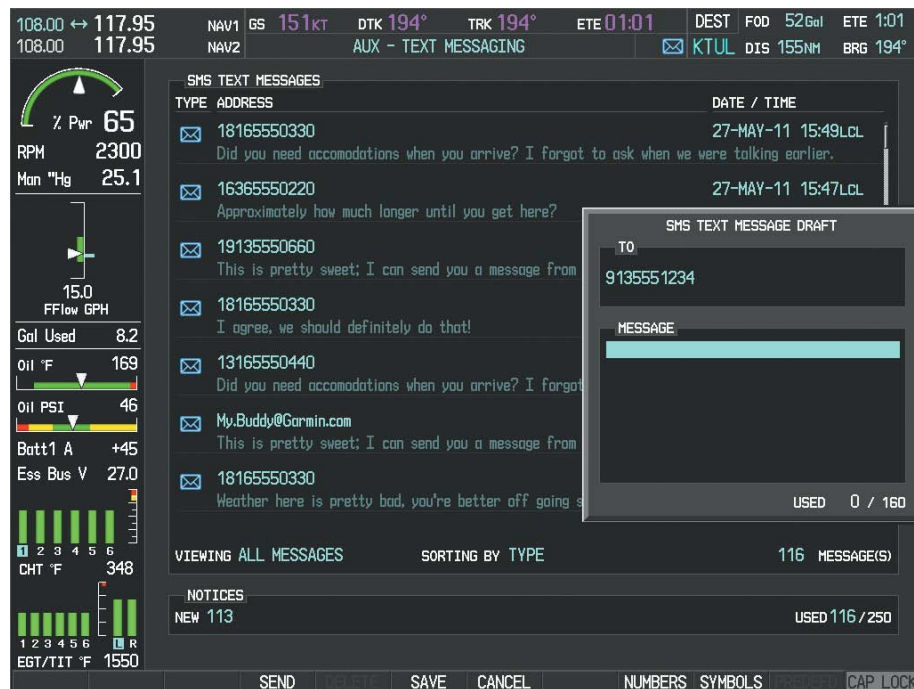

Figure 8-96 Composing a New Text Message
- 2) The TEXT MESSAGE DRAFT Window is now displayed with the cursor in the 'TO' field. Enter 00 + country code + area code + phone number when sending to a text capable telephone. An email address may also be entered. Entry can be accomplished through the alphanumeric keys on the MFD Controller, or combination of the **FMS** Knob on the controller and softkeys on the MFD. The **FMS** Knob is used to enter letters and numbers, or numbers can be entered from the MFD by selecting the **NUMBERS** Softkey. Select the **CAP LOCK** Softkey to create upper and lower case alpha characters. Special characters can be accessed by selecting the **SYMBOLS** Softkey. See Figure 8-96.